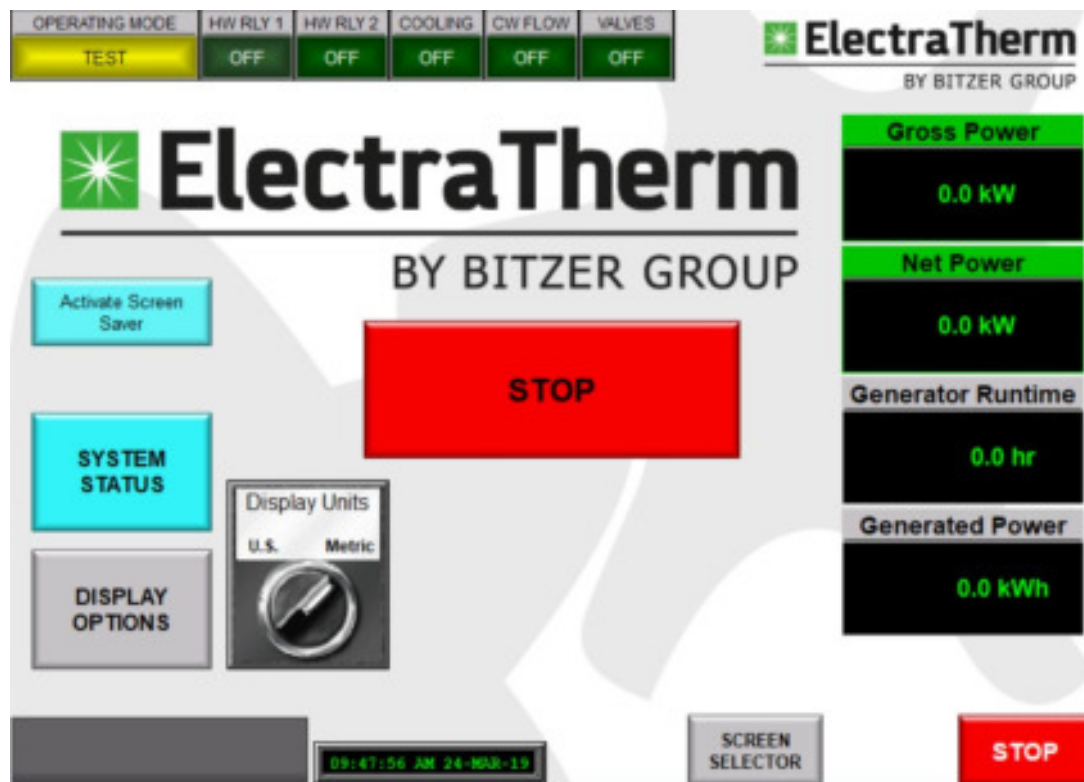

Figure 3-4: Main HMI Screen
When first powered up, the HMI will show the 'Main Screen' by default, as depicted in Figure 3-4.
- 1) **START / STOP:** The 'START' icon will start the machine. It is intended to allow the operator to quickly get a machine which has already been properly setup back online after having been powered down. The 'START' icon will only appear if all condition for startup are met. During operation the 'START' icon will be replaced by a 'STOP' icon – as shown above in Figure 3-4. The 'STOP' icon will shut down a machine which is running.